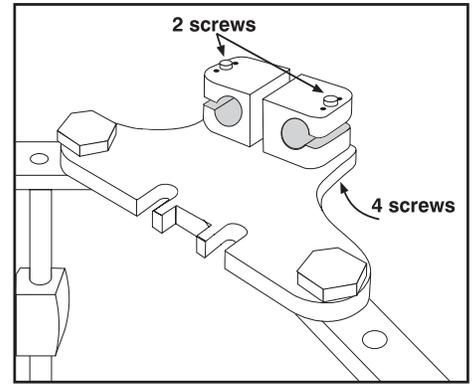

Figure 2.9. Loosen Clamp Screws
1. At the clamp on the anamorphic adapter, loosen 6 screws (3/16")—2 on the top of the clamp, 4 on the bottom—so that the clamp is loose. See Figure 2.9.